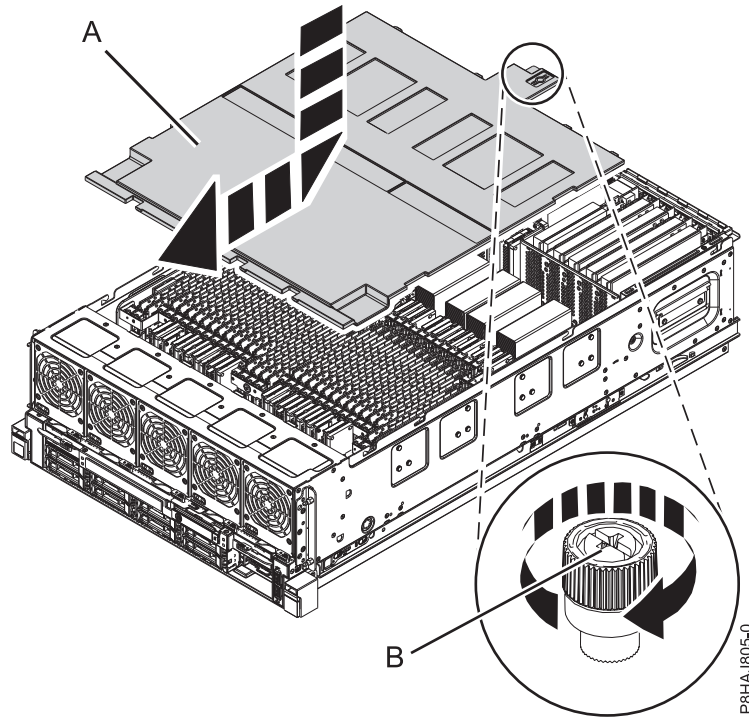

Figure 24. Replacing the safety cover
2. Push the safety cover (A) toward the chassis.
3. Tighten the thumbscrew (B) by turning it in the direction shown in Figure 24 on page 37 to fix the safety cover to the chassis.